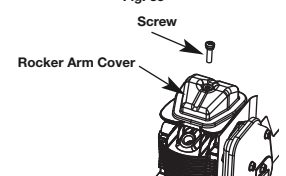

Fig. 36
5. Clean dirt from around the rocker arm cover. Remove the screw holding the rocker arm cover with a large flat blade screwdriver or Torx T-25 bit (Fig. 36). Remove the rocker arm cover and gasket.
- The piston is at the top of its travel while looking in the spark plug hole (Fig. 36)